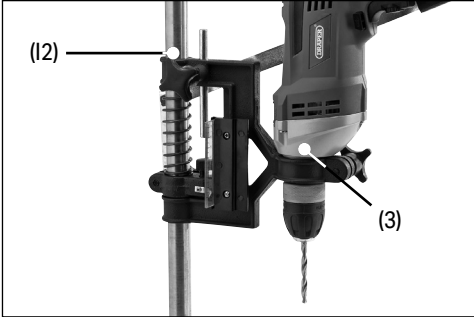

Fig. 7
1. Insert your drill into the collar (3) and tighten knob (12) to secure the drill in place. Use the collar reducer (J) for 38mm diameter drills. (Fig.7)